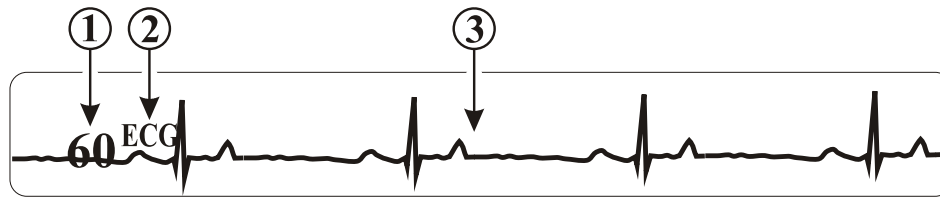

Figure 4-4. The ECG Display
4.1.3 Associated Displays. (See **Figure 4-4**) ECG information is displayed as a waveform in the Trace A location and as numerical data on the left side of the waveform trace. The following is a description of the items located within the ECG Display: